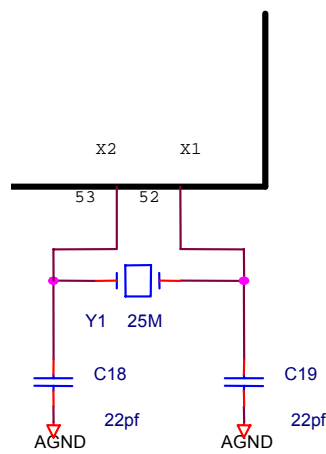

Fig. 7-1 Crystal circuit for DM8203
- A crystal can be used to generate the 25.000MHz reference clock instead of an oscillator. The crystal must be a fundamental type, series-resonant, connect to X1 and X2, and shunt each crystal lead to ground with a 22pF capacitor as shown in **Fig.7-1**.